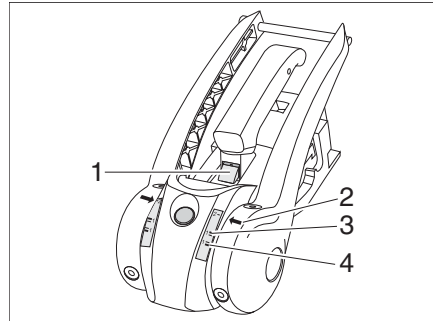

Fig. 160 Friction control of friction lining
- If the green marking (Fig. 160,1) is visible, the friction linings at the front and back are OK. If the green marking is no longer visible, the friction linings have to be replaced.
- If the arrow (Fig. 160,2) is below the softdock marking 1-green (Fig. 160,4), the friction linings on the right and left are OK. If the arrow (Fig. 160,2) is above the softdock marking 1-red (Fig. 160,3), the friction linings have to be replaced.
- If the green marking (Fig. 160,1) is visible, the coupling ball is OK. If the green marking is no longer visible, the diameter of the coupling ball < 49 mm and the coupling ball has to be replaced.